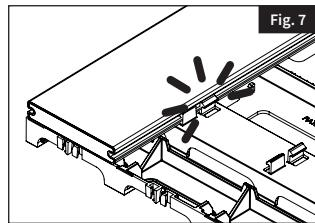

Fig. 7
- To install deck boards, place one edge of the board into the side of the Clip. Step down (or tap with a non-marring rubber mallet) on the opposite elevated edge of the board to secure it in place (Fig. 7).